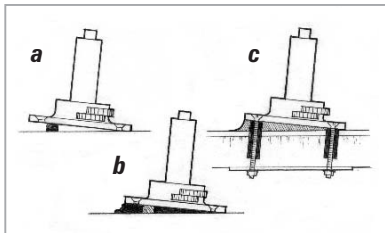

Figure 19 Support the base in position with blocking. Fill the void with thickened epoxy.
2. Bond small blocks to the substrate to support the base at the desired height and position (e.g., *winch base, Figure 19-a*).
4. Place the hardware in position, resting on the blocks (*Figure 19-b*) and install the fasteners.
5. Smooth the excess epoxy into the desired fillet shape around the base (*Figure 19-c*). Allow the epoxy to cure fully before loading. Protect exposed epoxy from UV.